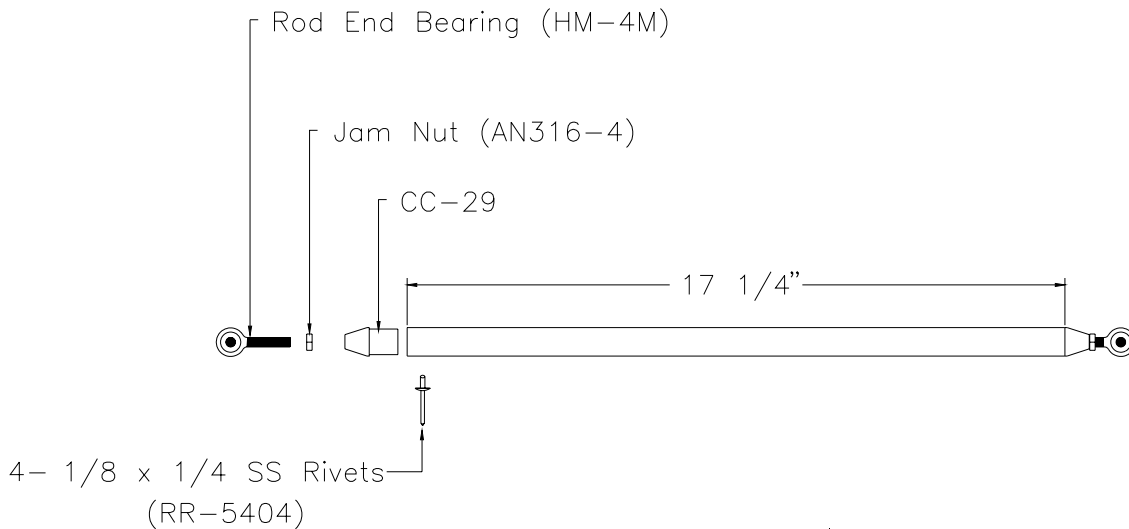

Figure 20.3.5
6) Make the Control Stick Connector Tube (CC-39) from 3/4" x .035" tube (CC-51). Figure 20.3.5.